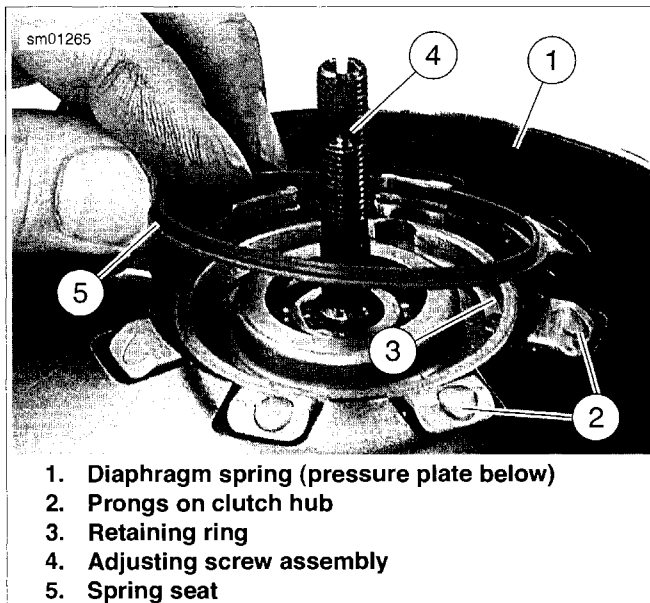

Figure 5-18. Spring Seat Installation
11. See Figure 5-18. Align square openings of pressure plate and diaphragm spring (1) so the assembly can be installed over prongs of clutch hub (2). Place assembly of spring seat (5), retaining ring (3), diaphragm spring, pressure plate, adjusting screw components (4) and compressing tool onto clutch hub and against clutch pack (28, Figure 5-11).